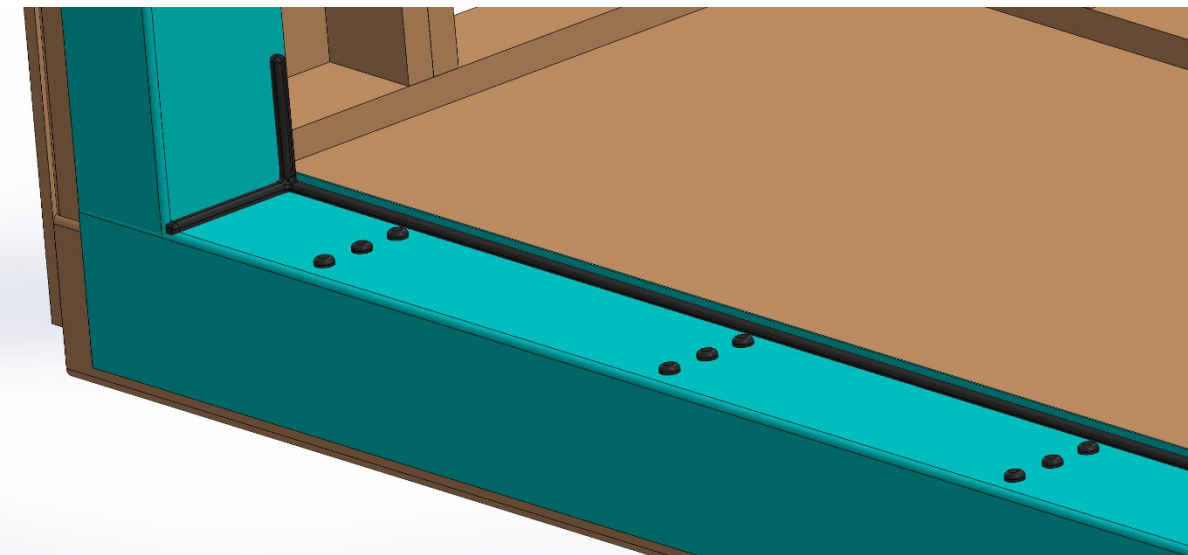

Figure 10
16. With the sill assembly removed, and clean from debris, apply a 1/2" bead of sealant to the floor from jamb to jamb along the exterior edge of the mark previously applied to the floor. The sealant should be applied in a U-shape to ensure a proper and complete water-barrier has been accomplished across the full width of the sill opening. Sealant should also be applied a minimum of 6" up each side of the opening to the points to which the jambs, end plates, or post-interlockers will need to be sealed. (See Figure 10).